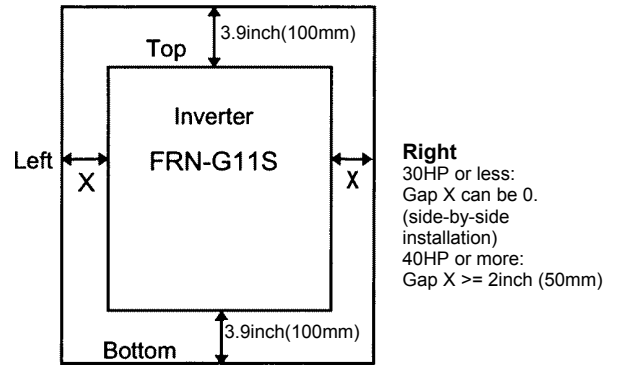

Fig.2-2-1
- As heat is generated during inverter operation, the spaces shown in Fig. 2-2-1 are required to ensure sufficient cooling. As heat radiates upward, do not install the product beneath a device sensitive to heat.